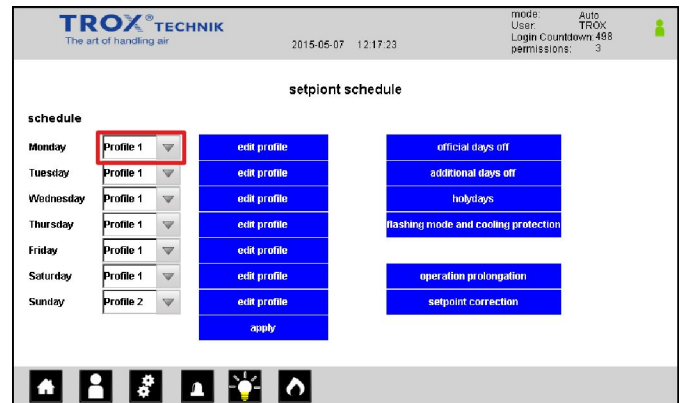

Fig. 27: Editing profiles
- 1. ▶ Select a day of the week (Fig. 27), then select a profile from the list.